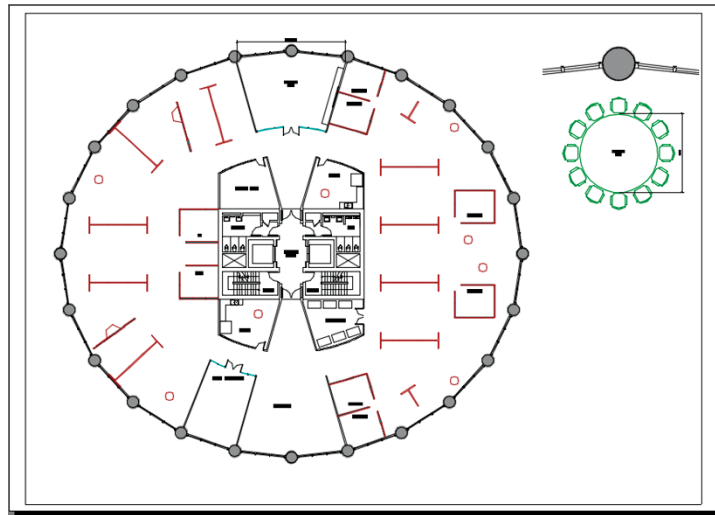

FIGURE 13.24 Plot preview of Layout2
10. Select the Output tab on the ribbon, and click the Preview tool in the Plot panel. What you now see is what you would get if you published this drawing (see Figure 13.24). Press Esc to exit the preview.